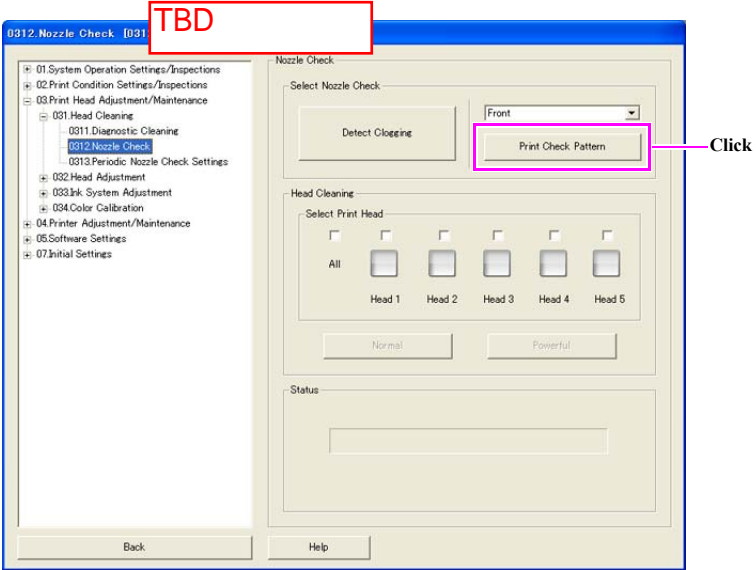

Figure 3-60. Nozzle Check Screen
- Click **[Print Check Pattern]** and print the Nozzle Check Pattern shown in Figure 3-61. (See Figure 3-60.)
- Depending on the results, head cleaning is performed in the following manner. (See Figure 3-60)